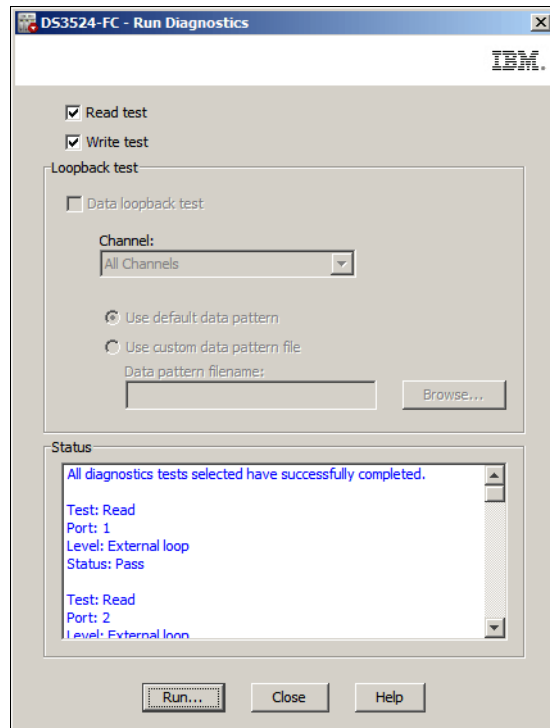

Figure 14-123 Run Diagnostics - completed
4. The tests will run and the test report will be displayed in the **Status** section of the Run Diagnostics window as shown in Figure 14-123 on page 408.